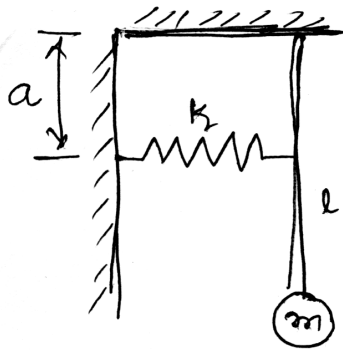

Figure 1
- c. Determine the natural frequency for the free vibrating body shown in Fig.1. 6